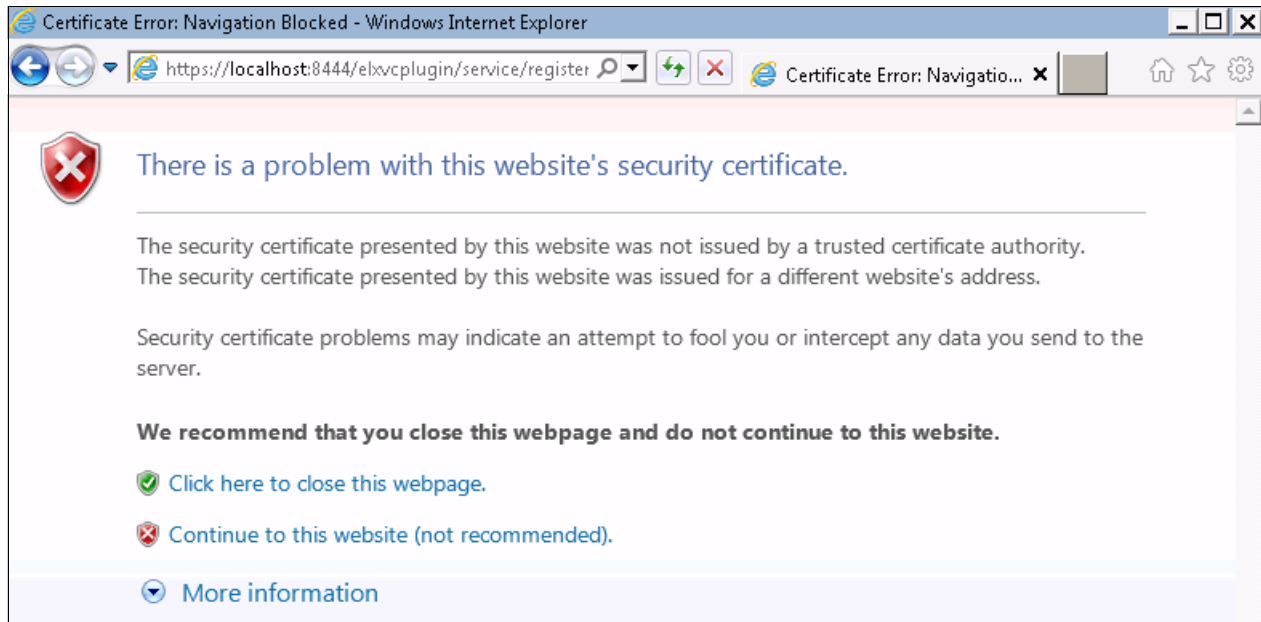

Figure 7-44 Certificate error message
9. Depending on your web browser settings, if you see a security warning message (Figure 7-44), click **Continue to this website (not recommended)**.